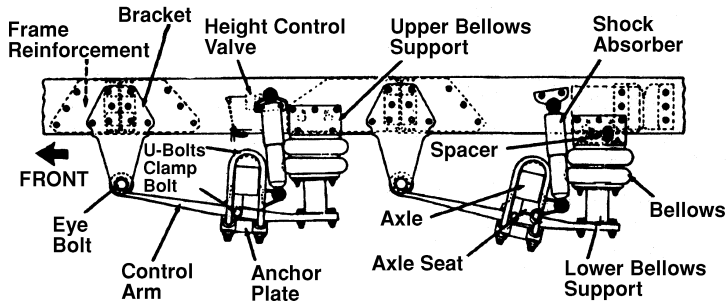

Figure 2-4
- ✓ Leaking shock absorbers (Figure 2-4).
- ✓ Air suspension systems that are damaged and/or leaking (Figure 2-4).